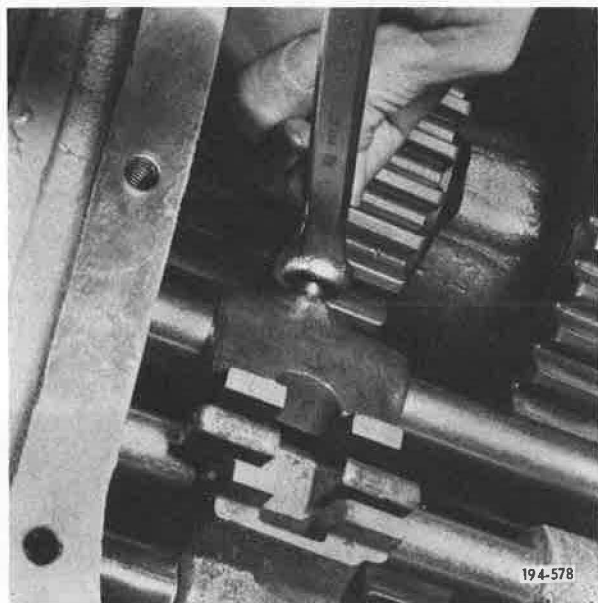

Figure 5-986. Installing Setscrew
17. Install setscrew into fourth/fifth speed shift fork, and tighten to recommended torque. See Figure 5-986. Refer to Torque and Tolerance Table, Item 8.